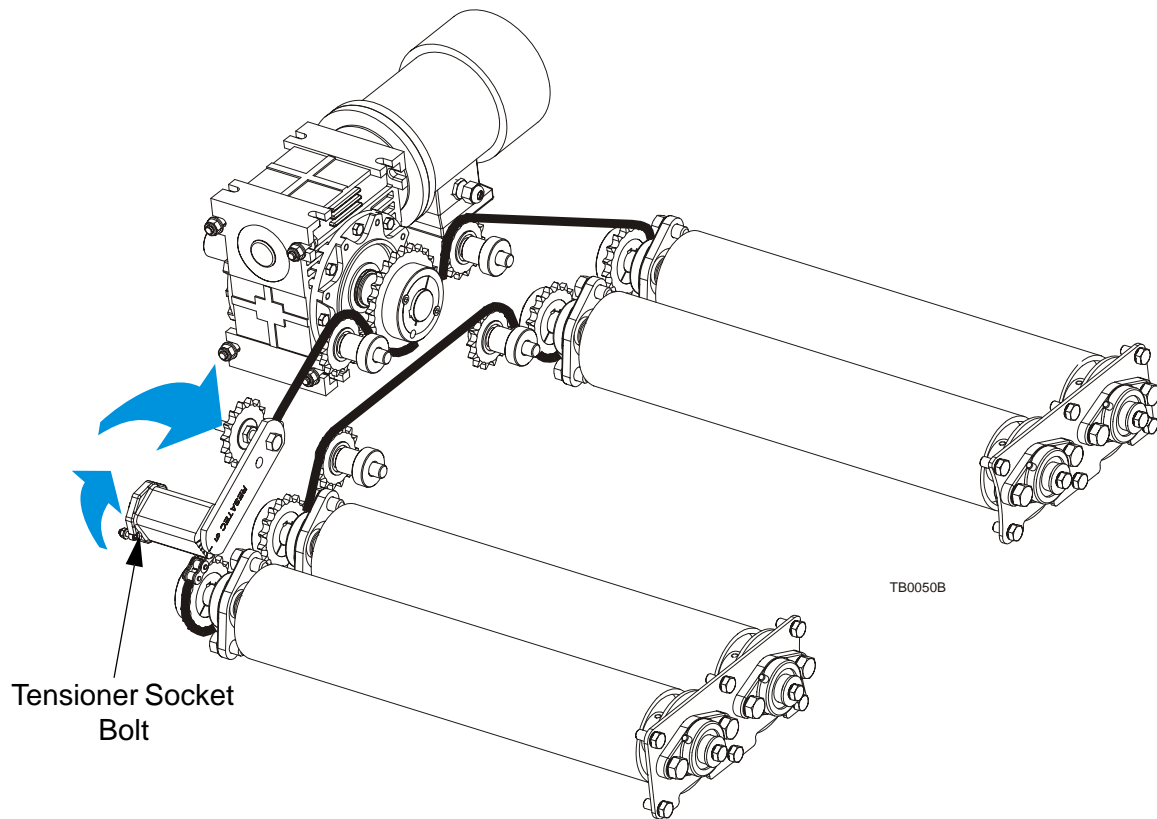

FIG. 5-4
**See Figure 5-4.** To tension the drive chains, unbolt and open the gearbox housing cover.